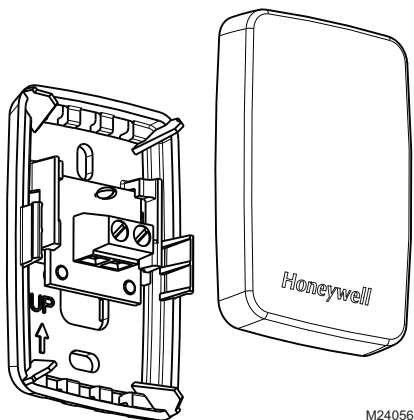

Fig. 36. Remove the cover.
1. Remove the cover from the remote sensor (see Fig. 36).